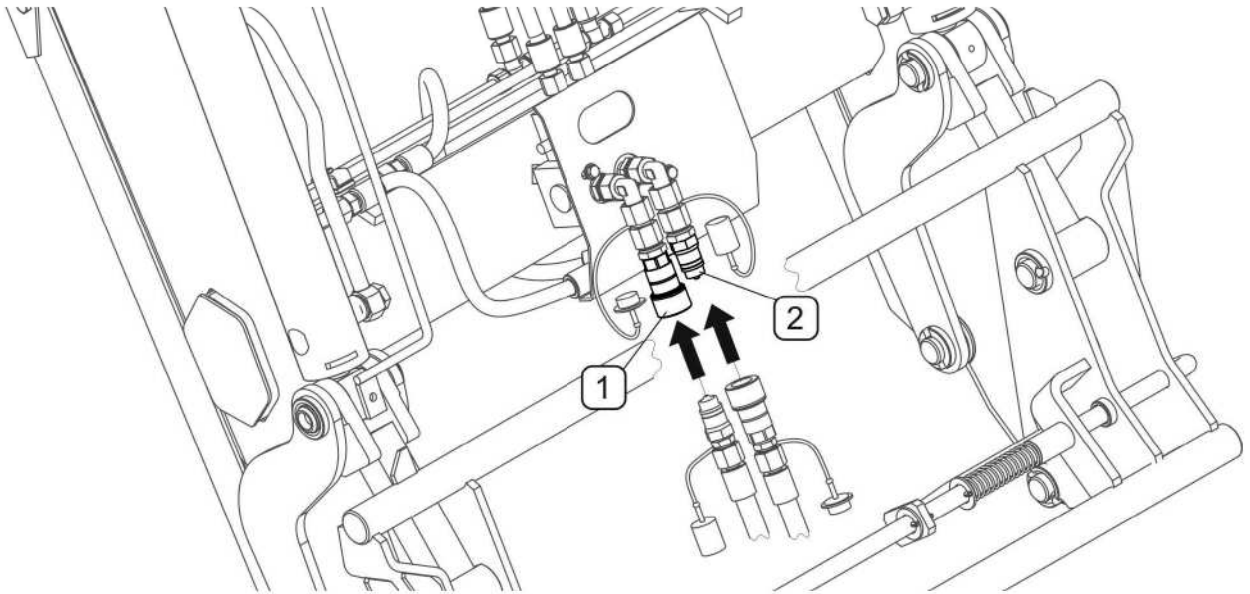

FIG. 4.32A CONNECTION of implement hydraulic system to loader
- with the aid of quickcouplers connect implement to loader hydraulic system; (FIG. 4.32A)